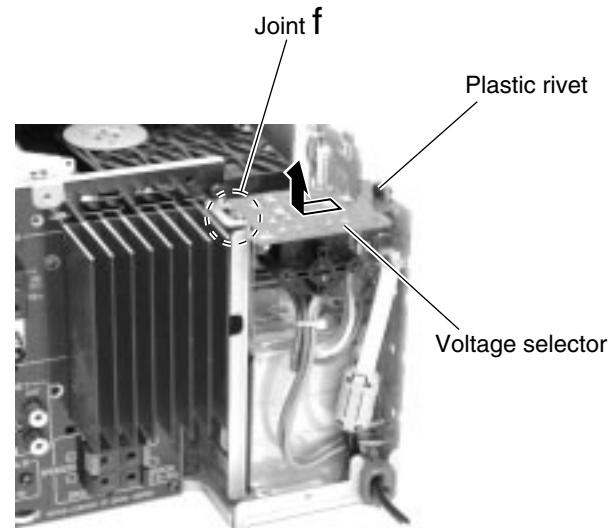

Fig.26
■Removing the voltage selector (See Fig.26)